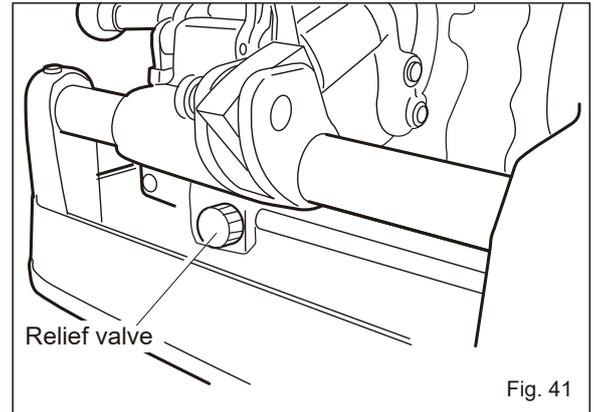

Fig. 41
- Turn the Relief valve to adjust to the most suitable amount of oil needed. (Fig. 41)